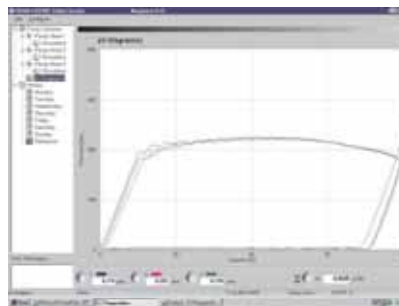

Figure 4: pV-diagrams of all pumpheads
- The pV-diagrams of all pumpheads for comparison with each other (Figure 4).